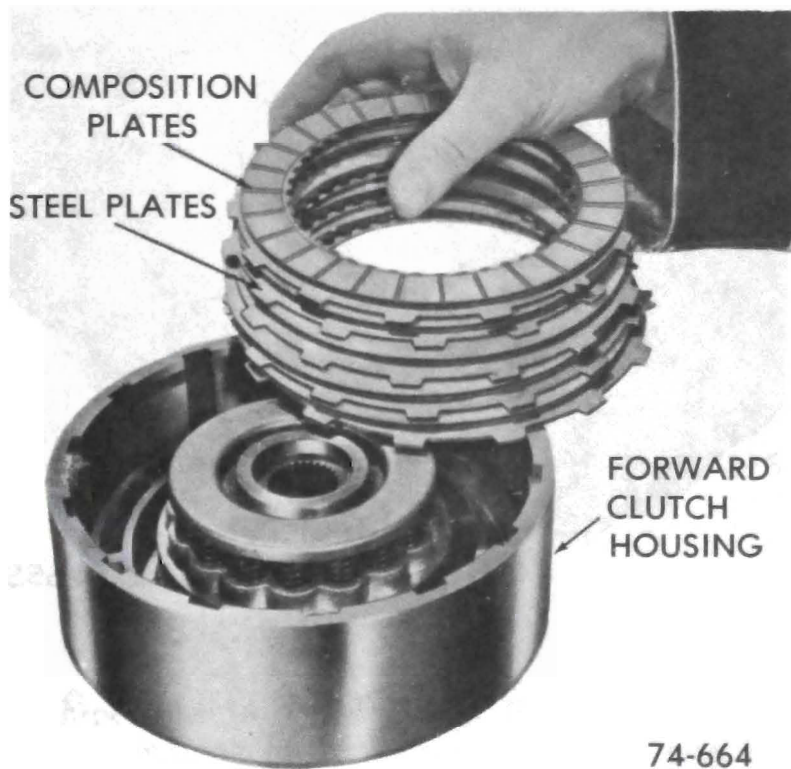

Figure 76-178
4. Remove five (5) radial groove composition and five (5) steel clutch plates. See Figure 76-178.